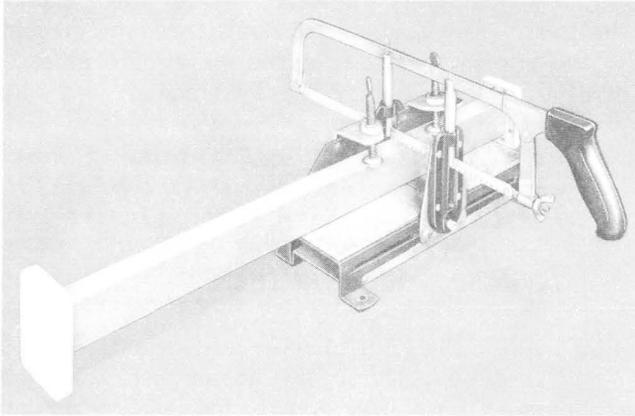

Fig. 3—Waveguide Section Clamped in Position with Hacksaw Assembled
4.05 Place the waveguide section into the miter box and align the cutting mark. Position the miter box clamps so they will bear on the edge of the waveguide and *hand* tighten the clamps. Attach the hacksaw to the miter box (Fig. 3) by placing the two cylindrical saw guides into the sockets. The hacksaw blade must have 32 teeth-per-inch with no missing or damaged teeth.